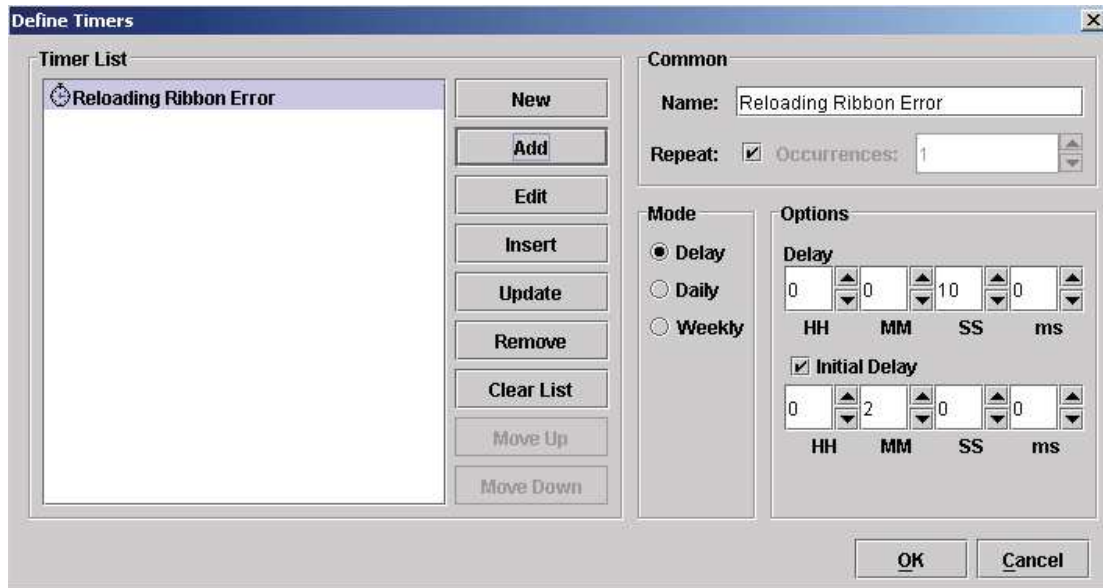

Figure 222 Setting a Delay Timer
6. Click **Add**. The Ribbon Reloading Error delay timer is added to the Timer list. See Figure 222.